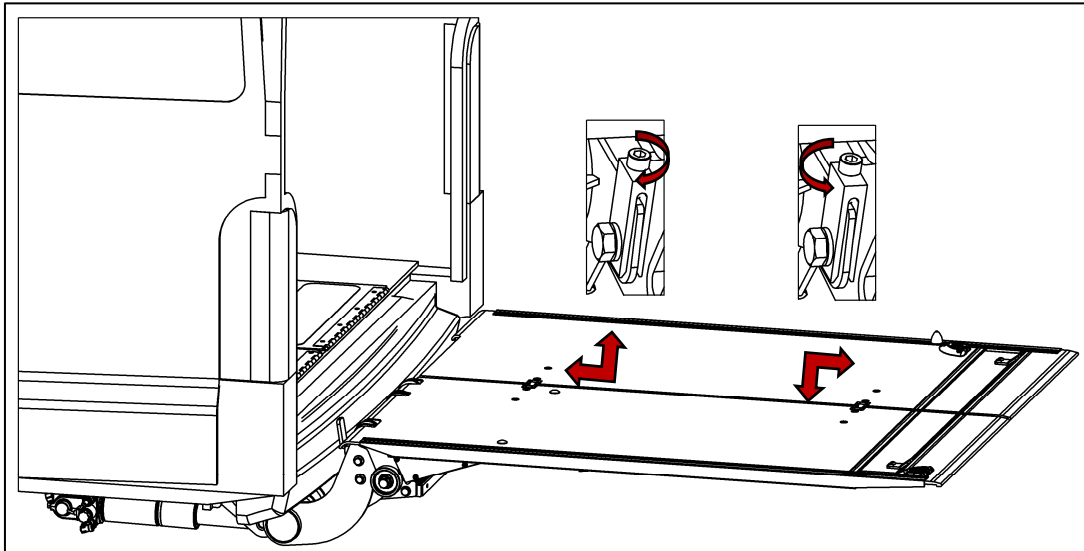

Fig. 70
- Loosen the hex bolt (3).
- Rotate the adjustment screw (1) to the left or right.
- Rotating the adjustment screw (1) to the right moves the right side of the platform closer to the vehicle chassis. This slightly lifts the platform on the right side of the vehicle (see Fig. 70).
- Rotating the adjustment screw (1) to the left moves the right side of the platform away from the vehicle chassis. This slightly lowers the platform on the right side of the vehicle (see Fig. 70).